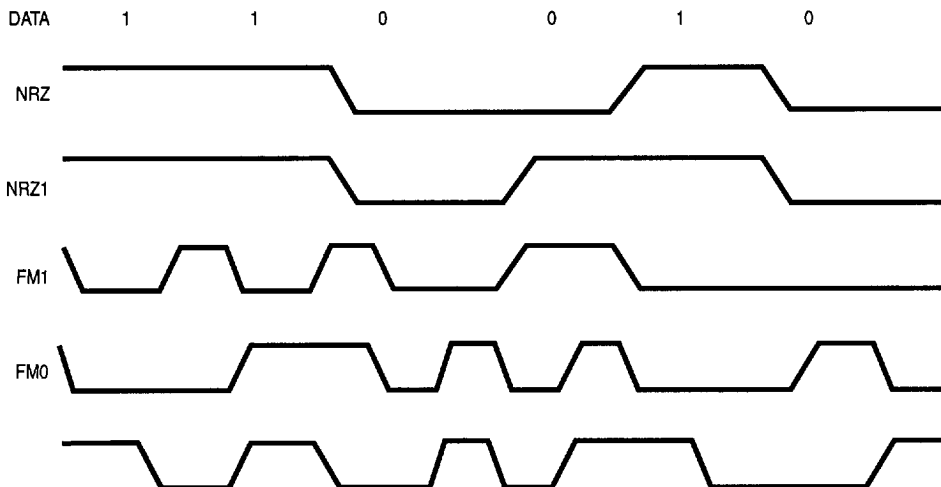

Figure 6. Data Encoding Methods
**Data Encoding.** The SCC may be programmed to encode and decode the serial data in four different ways (Figure 6). In NRZ encoding, a 1 is represented by a High level and a 0 is represented by a Low level. In NRZI encoding, a 1 is represented by no change in level and a 0 is represented by a change in level. In FM1 (more properly, bi-phase mark), a transition occurs at the beginning of every bit cell. A 1 is represented by an additional transition at the center of the bit cell, and a 0 is represented by no additional transition at the center of the bit cell. In FM0 (bi-phase space), a transition occurs at the beginning of every bit cell. A 0 is represented by an additional transition at the center of the bit cell, and a 1 is represented by no additional transition at the center of the bit cell. In addition to these four methods, the SCC can be used to decode Manchester (bi-phase level) data by using the DPLL in the FM mode, and programming the receiver for NRZ data. Manchester encoding always produces a transition at the center of the bit cell. If the transition is 0 to 1, the bit is a 0. If the transition is 1 to 0, the bit is a 1.